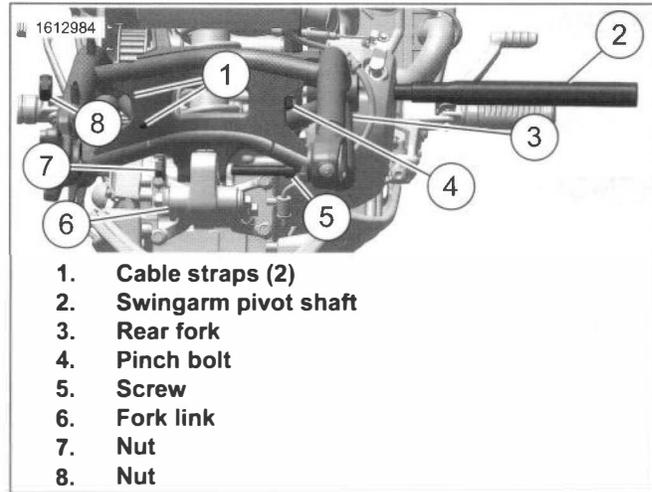

Figure 3-66. Rear Fork Assembly
1. See Figure 3-66. Support rear fork (3).
2. Remove fork link (5) screw and nut (7).
- a. Remove nut (8).
- b. Remove and discard cable straps (1).
- c. Loosen pivot shaft pinch bolt (4).
- d. Remove swing arm shaft (2) and rear fork assembly (3).
1. See Figure 3-66. Align rear fork (3) with frame.
- a. Install pivot shaft (2) through right side of rear fork (3) and frame.
- b. Install nut (7). Tighten.